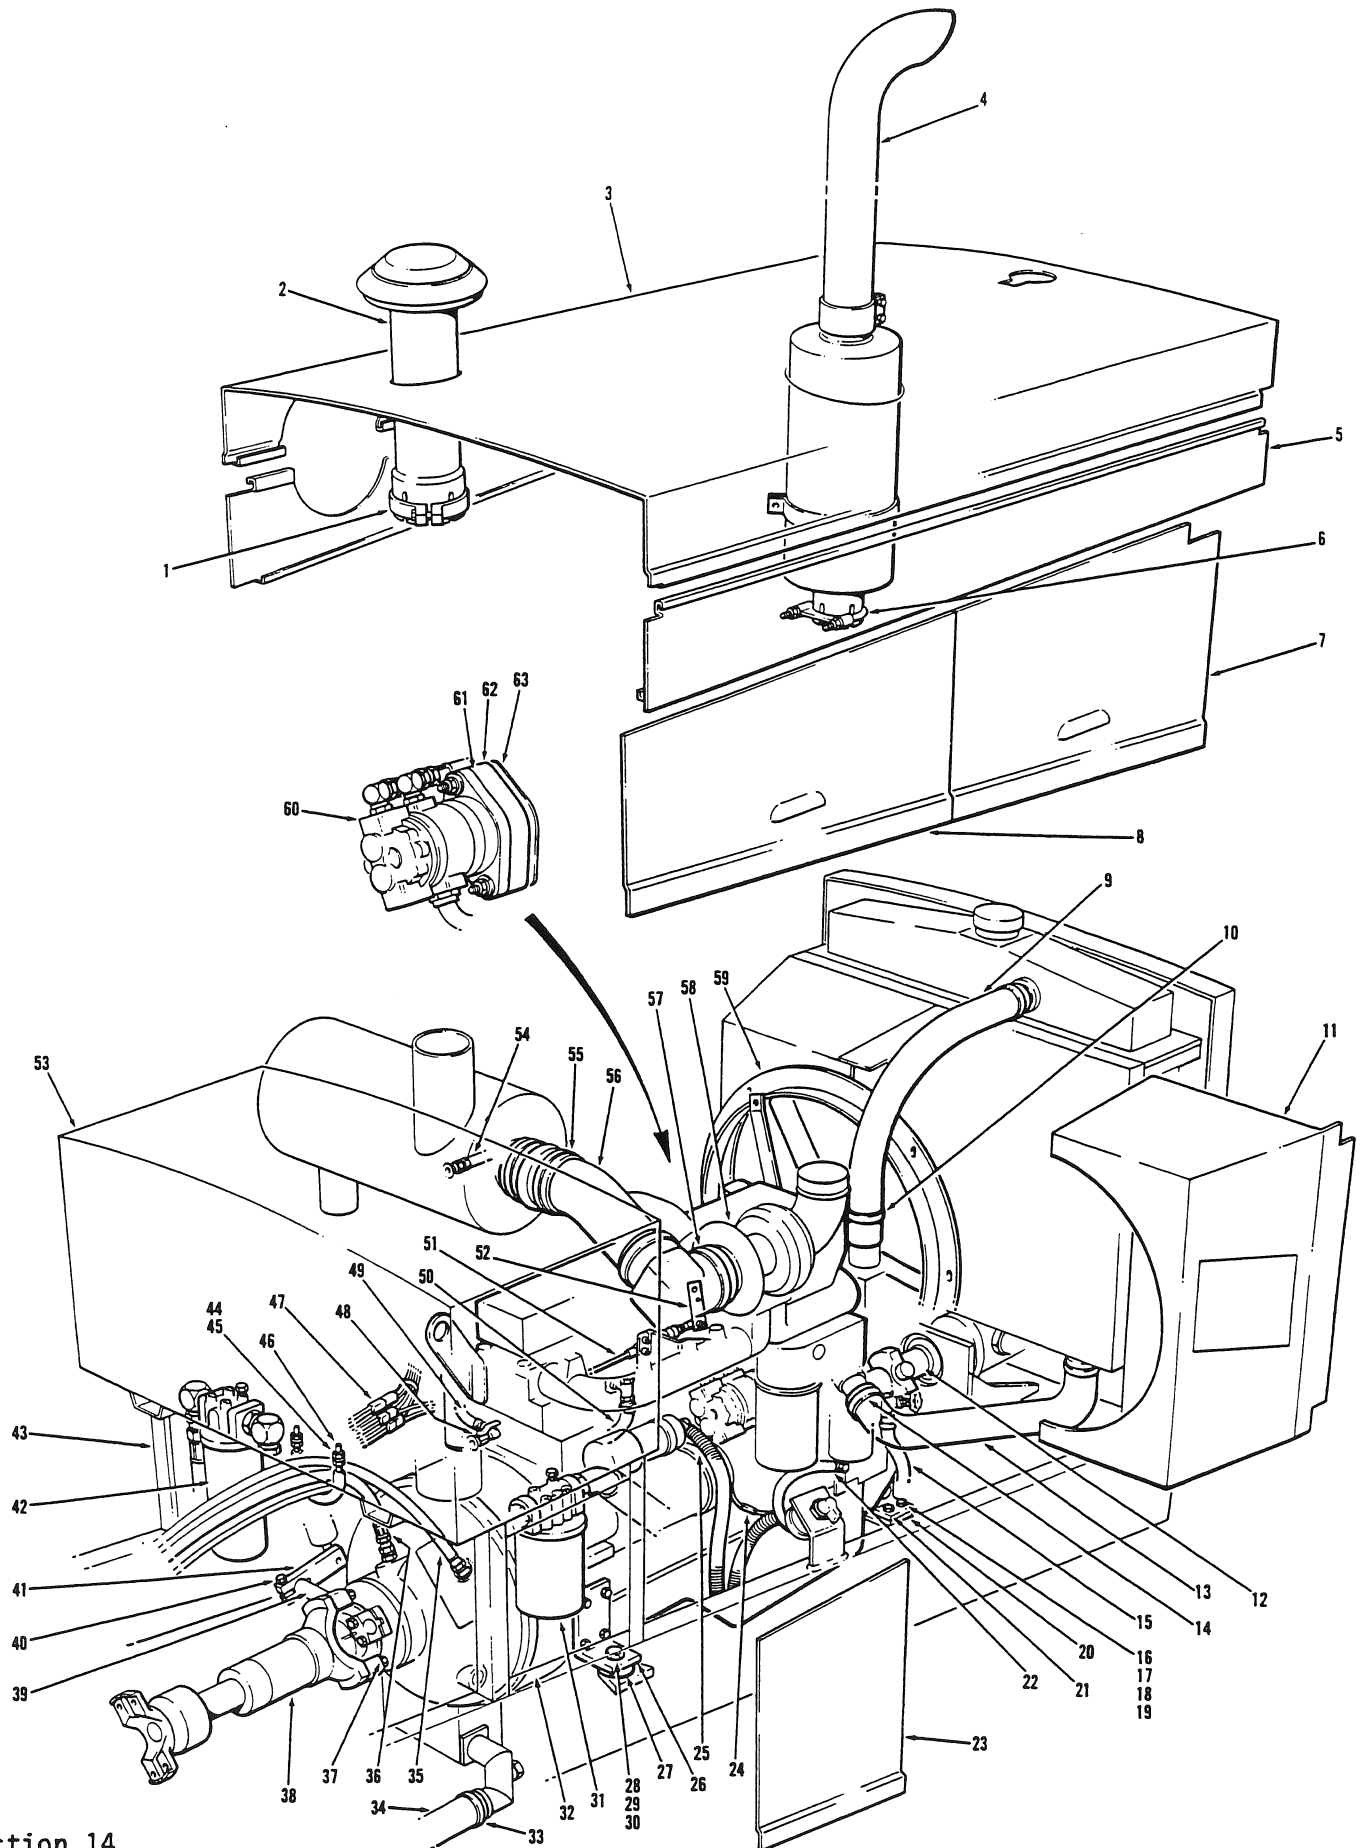

Fig. 1
Connect the chains (58) using a lever and install both halves of the connector links (60,81) using new cotter pins (Ref. Fig. 1).
Apply anti-seize compound to the stub axle opening of the wheel housing (Ref. Fig. 1).
Using a safe lifting device, maneuver and install the wheel housing (3) and align the key (Ref. Fig. 1) of the stub axle (38) to the key slot in the wheel housing.
Install the flat washer (Ref. Fig.1) and stub axle nut (Ref. Fig. 1) and tighten the nut to the specified torque.
Apply silicone to the side cover openings of the tandems. Install the cover plate (64) with a new gasket (63) and retain the plate with eight countersunk head capscrews. (Ref. Fig. 1)
Apply a gasket sealant to the inspection port openings and install new gaskets (Ref. Fig. 1), inspection covers (53) and the brake line shields (54). Retain the covers and shields with lockwashers (55) and nuts (56). Tighten to the specified torque.
To adjust the brakes you must remove the rear spring clip cover and rubber plug (Ref. Fig. 1). Using an adjusting wrench (special tool no. 377) inserted in the lower slot, rotate the star wheel clockwise until the brake shoes contact the brake drum surface. Insert a suitable L-shaped bent rod [3/8 in.(9,5 mm) Dia. x 3 in.(7,6 mm) x 8 in.(20,0 mm) long] into the hole above the slot, depress the auto-adjuster lever until it releases from the star wheel. Using the adjusting wrench, rotate the star wheel counterclockwise **FOUR TEETH ONLY**. Remove both tools and replace the spring clip cover and rubber plug.
Key to Fig. 1